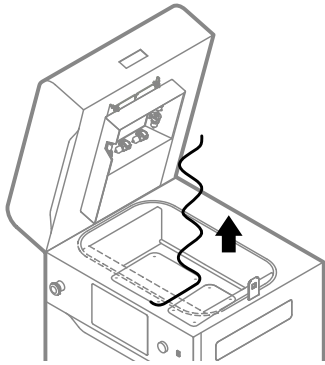

Fig. 13.44 Remove the used fiberglass rope from the Feed Bed.
17. Remove the used fibreglass rope around the Feed Bed. You can use the metal spatula to help pull out the sealing (fig. 13.44).
23. Using a 2.5 [mm] allen key, tighten the four screws securing the Feed Bed cover (fig. 13.44).